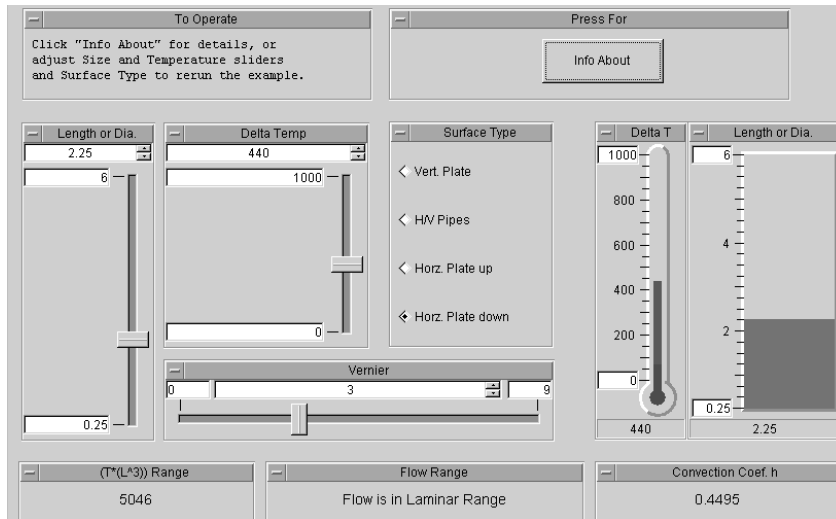

Figure 12.8. Convection Coefficient program after running
- 20. Run this program. It will look like Figure 12.8.